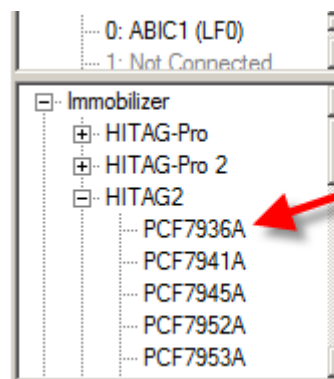

Fig 3. HITAG 2 immobilizer selection
2. Expand the HITAG 2 node of the Immobilizer tree in the applet view and double-click PCF7936A to open the Immobilizer applet form (Fig 3).